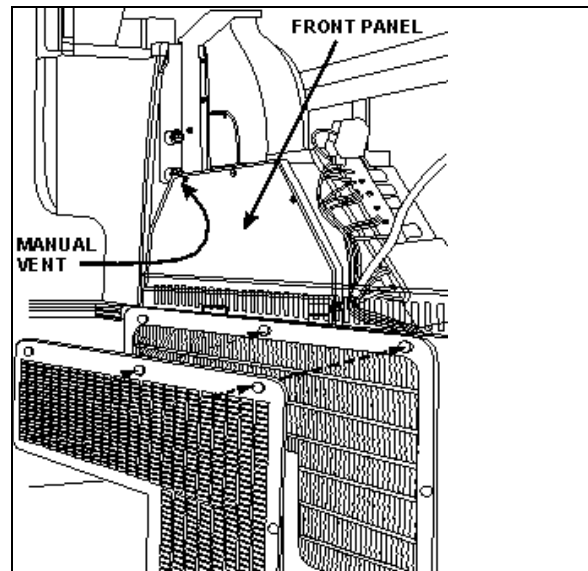
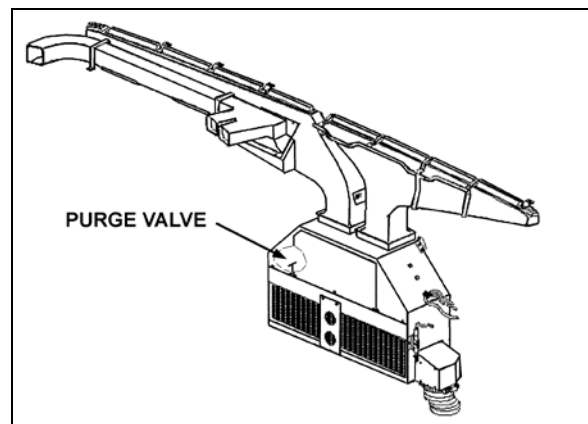
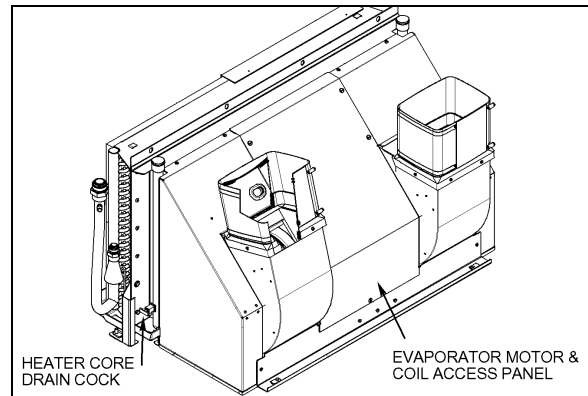
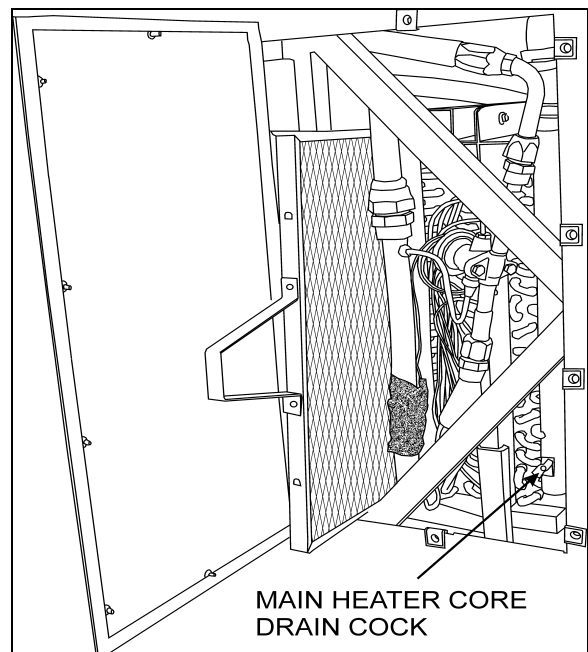

FIGURE 69: DRIVER'S HVAC/DEFROST UNIT
FIGURE 70: DRIVER'S UNIT AIR MIXING BOX
FIGURE 75: HEATER CORE DRAIN COCK 22332
FIGURE 76: EVAPORATOR COMPARTMENT
Fresh air is taken from behind the R.H. side headlights assembly (H3 series) or from a plenum underneath the front service compartment (X3 Series) and enters the mixing box through a ON/OFF damper. Return air is taken through the right console into the mixing box (Figure 70). Mixed air goes through cooling and heating coils, fans and discharge ducts.
4. From inside of vehicle, remove the two finishing panels in front of unit. Remove the three screws fixing the unit front panel. Open the purge valve located inside the driver's unit (Figure 70). If present, open the manual vent located inside the HVAC unit, on the driver's side (Figure 69) to ensure an efficient draining.
4. Open drain cock in bottom of heater core (Figure 75 & Figure 76), you can unfasten a hose connection on top of heater core (Figure 76) in order to allow air to enter while draining. The main heater core drain cock is located in the evaporator compartment. To access the valve on X Series vehicles, open baggage compartment door located in front of the evaporator compartment (L.H. side). Open access panel by turning the three quarter-turn screws.
Whenever the heating system has been drained and refilled, or the system has run low on coolant and coolant has been added, it is necessary to bleed air from heating system. Locate the purge valve illustrated in Figure 70 & Figure 75, and open them momentarily until no air escapes from the lines. If present, open the manual vent located inside the HVAC unit, on the driver's side (Figure 69).